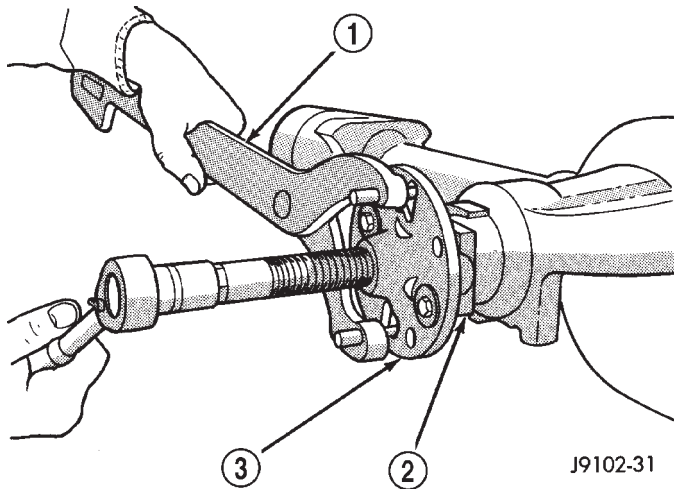

Fig. 38 Pinion Yoke Removal
(4) Using Holder 6958 to hold yoke, remove the pinion nut and washer.
(5) Using Remover C-452 and Holder C-3281, remove the pinion yoke from pinion shaft (Fig. 38).